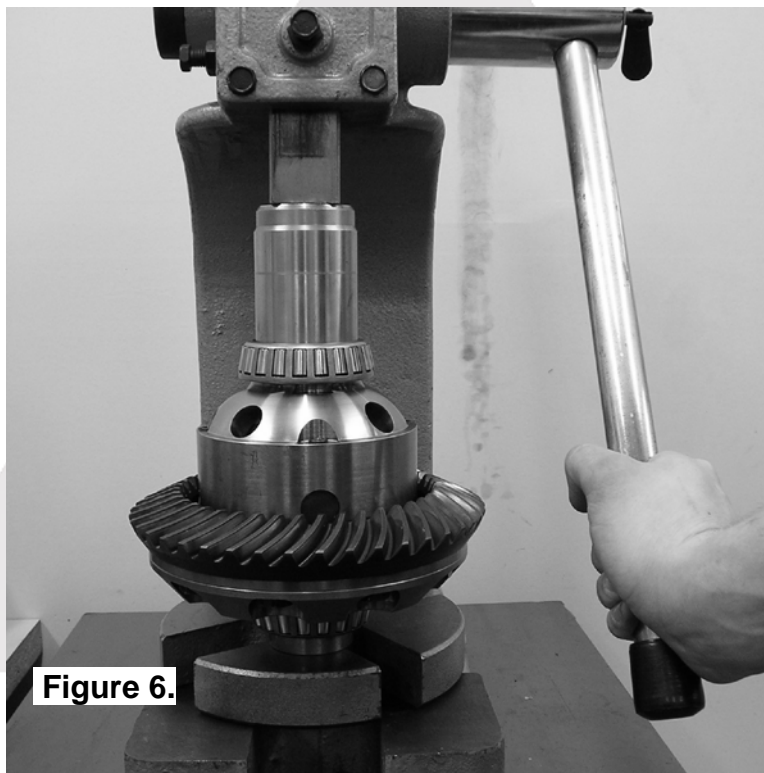

Figure 6.
- ☐ Press one of the tapered roller bearing cones onto one of the bearing journals of the *Air Locker* until the bearing seats firmly against the bearing journal shoulder (Fig. 6.).